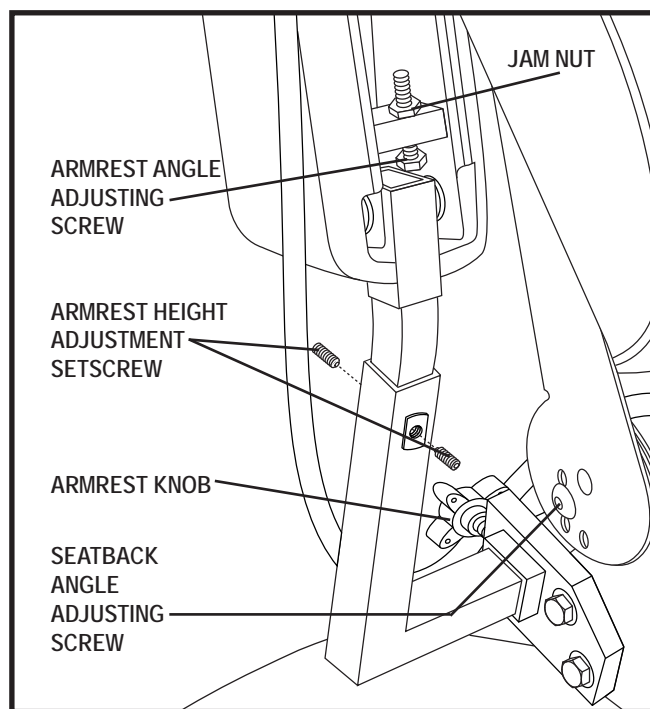

Figure 14. Seatback/Armrest Adjustment
1. Remove the adjusting screws from each seat hinge. **See figure 14.**
1. Locate the two armrest knobs on each side of the armrest receiver bracket. **See figure 14.**
1. Lift the armrest straight up so that it is perpendicular to the floor. **See figure 14.**